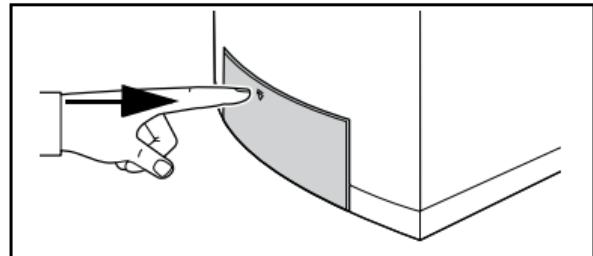

Fig. 2 Opening and closing the control panel
- Briefly push the drawer to open the control panel (fig. 2).